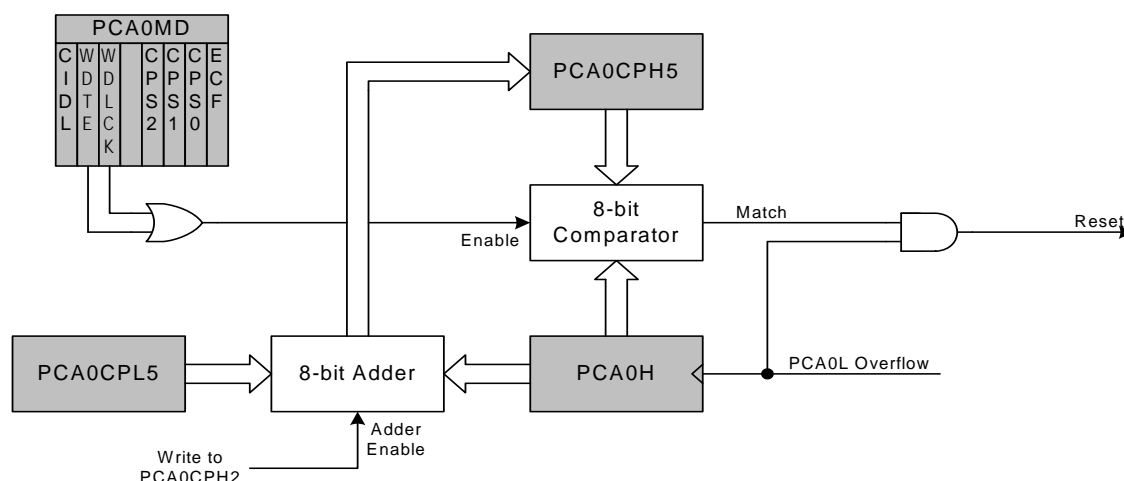

Figure 33.11. PCA Module 5 with Watchdog Timer Enabled
While the WDT is enabled, writes to the CR bit will not change the PCA counter state; the counter will run until the WDT is disabled. The PCA counter run control bit (CR) will read zero if the WDT is enabled but user software has not enabled the PCA counter. If a match occurs between PCA0CPH5 and PCA0H while the WDT is enabled, a reset will be generated. To prevent a WDT reset, the WDT may be updated with a write of any value to PCA0CPH5. Upon a PCA0CPH5 write, PCA0H plus the offset held in PCA0CPL5 is loaded into PCA0CPH5. (See Figure 33.11.)